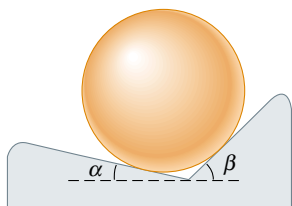

Figure P12.42
42. A solid sphere of radius R and mass M is placed in a trough as shown in Figure P12.42. The inner surfaces of the trough are frictionless. Determine the forces exerted by the trough on the sphere at the two contact points.